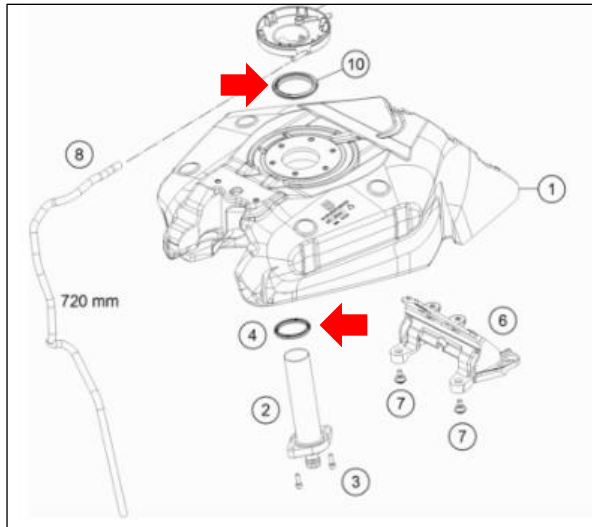
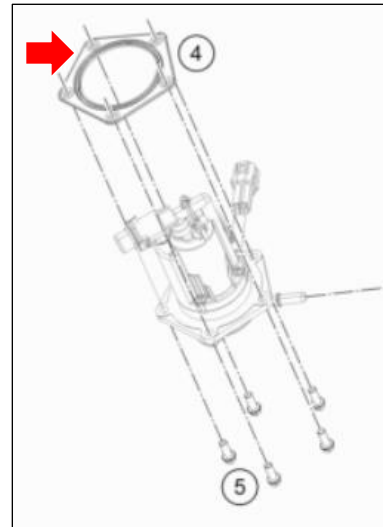

Fig. 6
Fig. 7
10. Make sure to use the new gaskets that you ordered when installing the fuel level sensor, fuel pump, and fuel tank insert (Figure 6 and Figure 7).